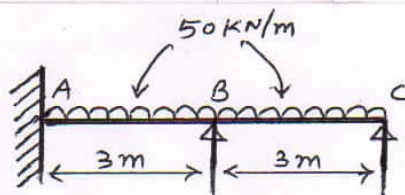

Fig. 7 Q. 3(d)
- (d) A continuous beam ABC is as shown in figure.7. Find support moments by moment distribution method. 04